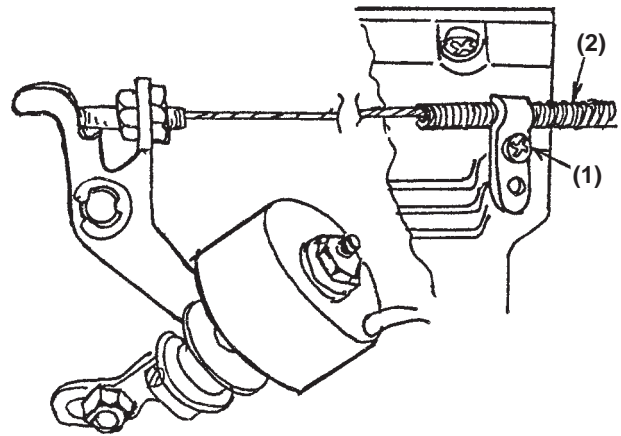

Fig. 21
To increase the rising amount, loosen screw (Fig. 21 (1)) and move thread release wire (2) to the right.